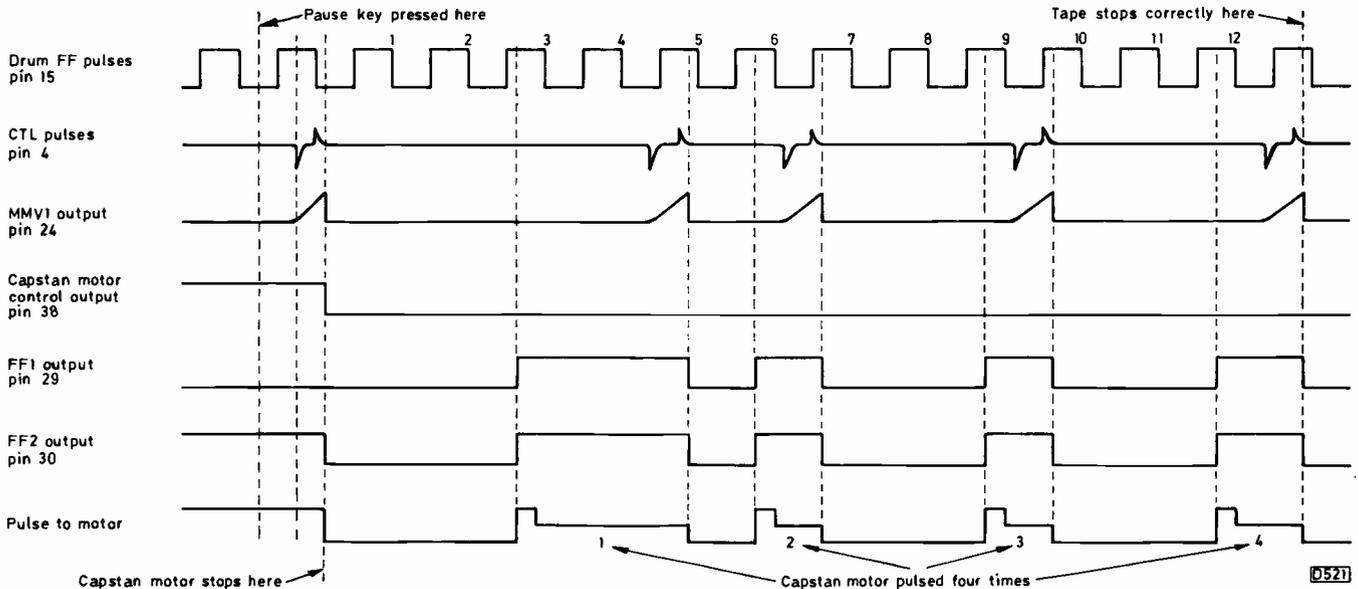

Fig. 65: Timing chart for freeze frame operation.
So we're in normal playback, with FF1 low and FF2 high, and we press pause. At the next control pulse, plus the time delay introduced by MMV1 (see Fig. 65), the output (CM) at pin 38 goes low, removing the servo output from IC7 and stopping the capstan motor. FF2 goes low, turning on X17 and placing a dead short across the capstan motor. The tape stops dead. FF1 stays low, and on this machine the pinch roller is not withdrawn.